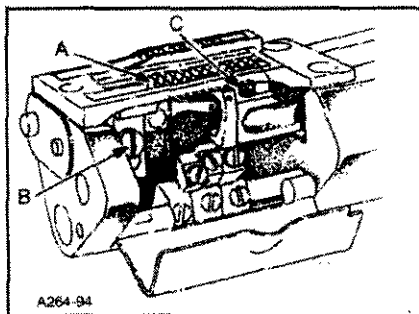

FIG.11
Assemble the main feed dog and throat plate. Main feed dog (A, Fig. 11) at its highest position, should be set to project above the throat plate, the depth of its teeth. The feed dog mounting screw (B) and front support screw (C) should be set to maintain this setting.